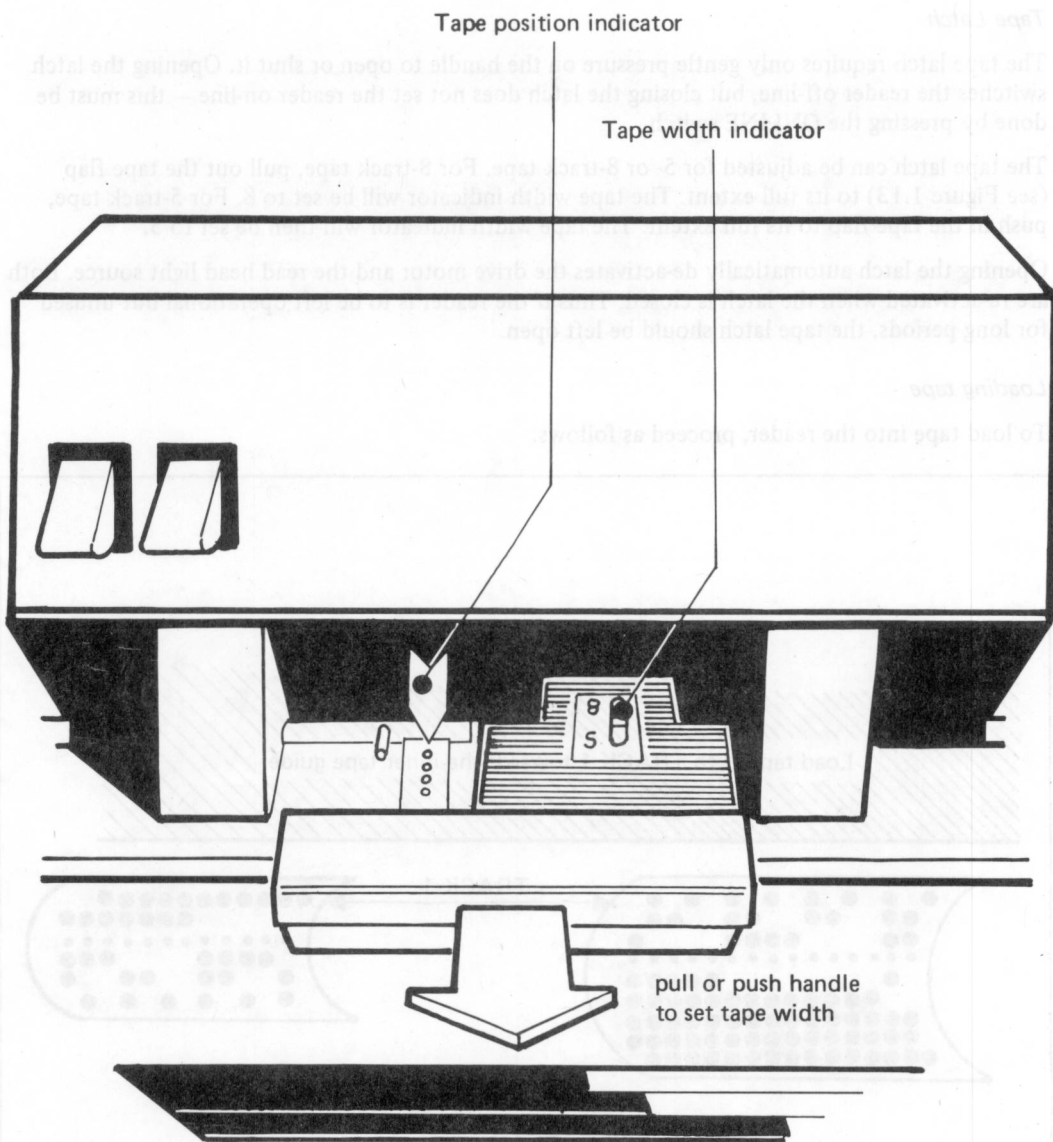

Figure 1.13 Tape latch assembly
The tape latch can be adjusted for 5- or 8-track tape. For 8-track tape, pull out the tape flap (see Figure 1.13) to its full extent. The tape width indicator will be set to 8. For 5-track tape, push in the tape flap to its full extent. The tape width indicator will then be set to 5.
- 6 If it is required to start reading at a specific character rather than on the leader code, the preceding character must be aligned with the tape position indicator (see Figure 1.13) before the reader is switched on-line. The tape can be pulled gently through the reading station by hand, or the SKIP and STEP switches can be used to position the tape